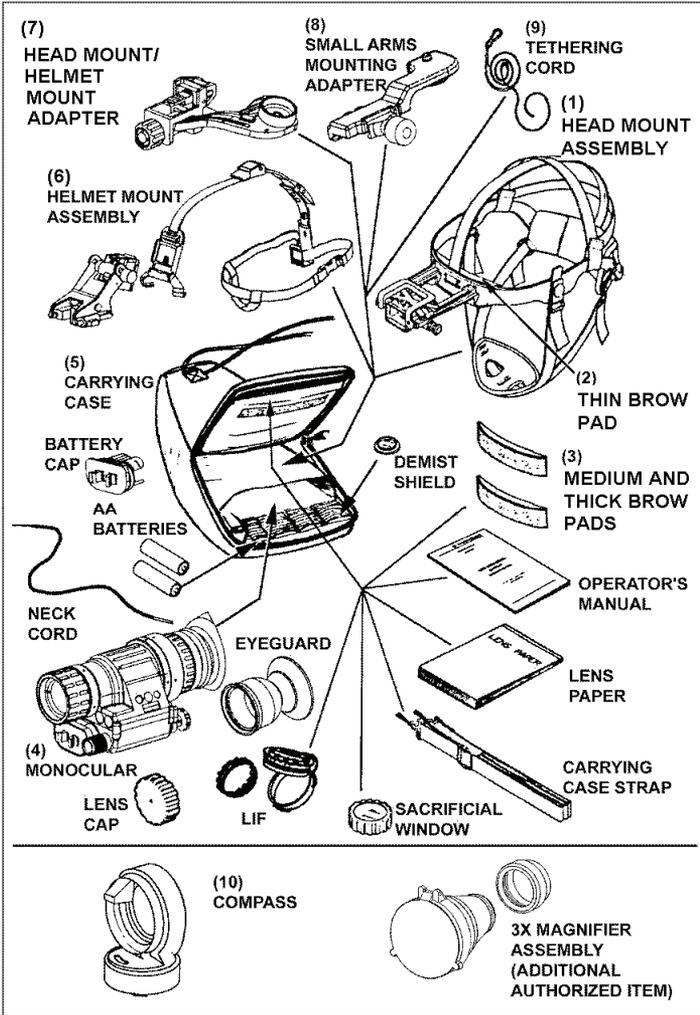

Figure 071-706-0001-1. AN/PVS-14 monocular night vision device
- a. Inventory carrying case contents to ensure that the following accessories are present (figure 071-706-0001-1):